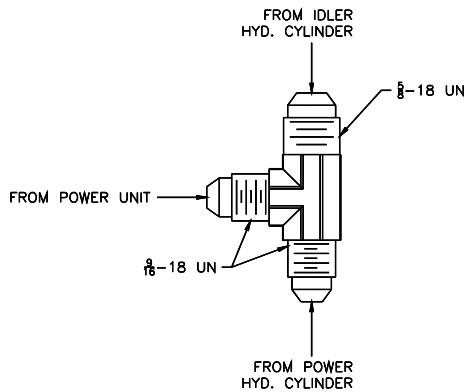

Fig 6 – Hyd. Tee Fitting
- 12) Install Overhead Limit Switch under the Overhead Assembly on the Power Side. Route cable around outside of column as shown in **Fig. 6**.
- 21) The hydraulic hose from the idler cylinder to the tee fitting are slightly larger and have a different size fitting. Note during installation to attach the hoses in the correct end of the tee. Fig 6.